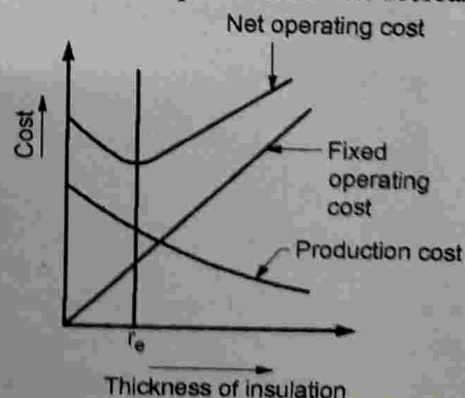

Fig. 2.12.1 : Economic thickness of insulation
- A graph can be plotted between the cost taken on Y-axis and thickness of insulation on X-axis as shown in Fig. 2.12.1.
- If we superimpose these two costs we get the net operating cost as shown in Fig. 2.12.1.